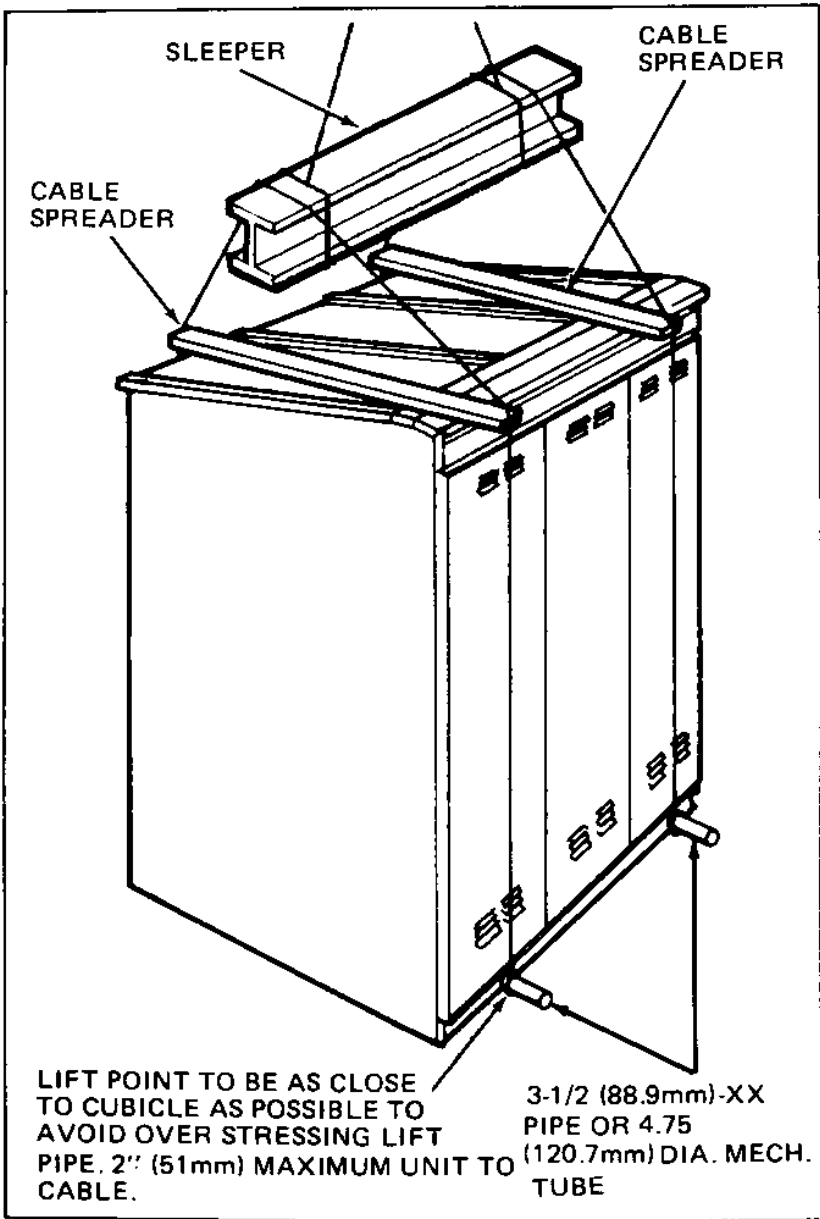

Figure 2. Lifting 34.5 kV Shelter-Clad Outdoor Switchgear
34.5 kV Shelter-Clad Switchgear (See fig. 2)